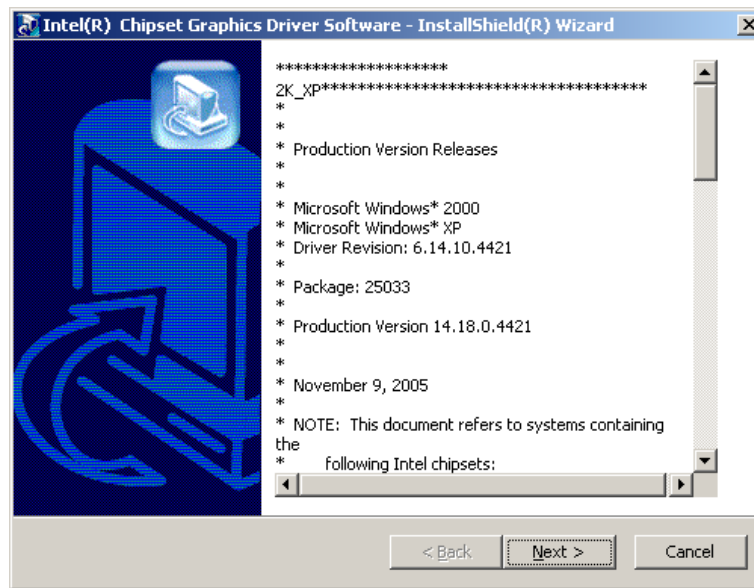

Figure 7-10: Intel® Graphics Media Accelerator InstallShield Wizard
Step 7: The Readme information file shown in **Figure 7-10** appears.